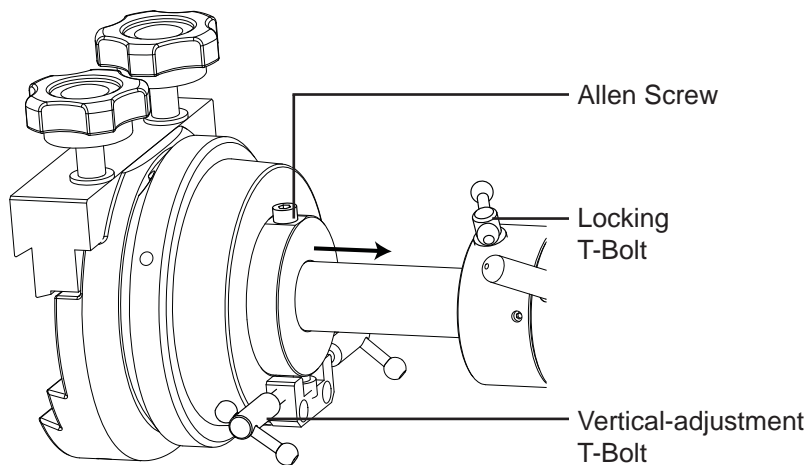

Fig. 2.5a
2. Loosen the Allen screw on the saddle's silver ring and push the saddle onto the counterweight rod, as shown in Fig. 2.5a. Align the Allen screw to the flat surface on the counterweight rod.